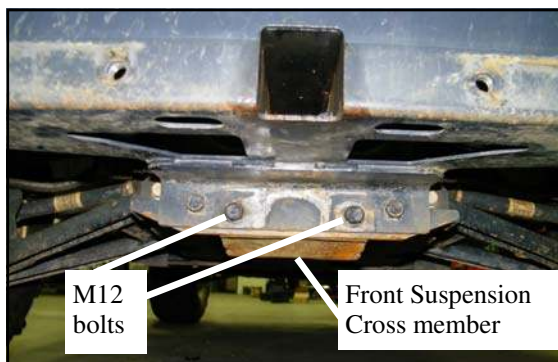

Fig 1.1 Mounting Hitch Front Mounting Plate
- 1.1 Remove and discard the two M12 bolts holding brush guard or front bumper to the front suspension cross member. The two bolts will not be reused with the snow blade mounting frame installed. See Fig 1.1.